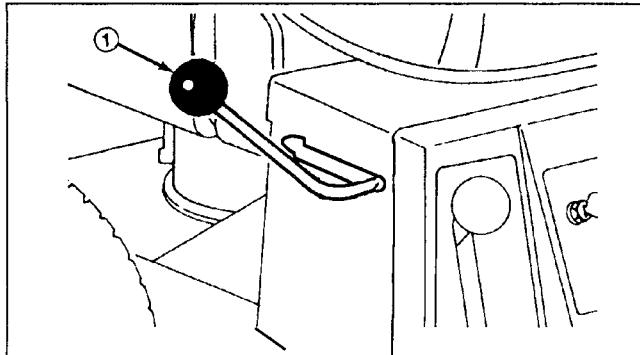

Figure 7
**Gear Shift** (Fig. 7) — Transmission has five forward speeds, neutral and reverse. The gear shift lever is located at right side of operator. An interlock switch, which prevents engine from being started when transmission is in gear, is mounted on top of transmission.